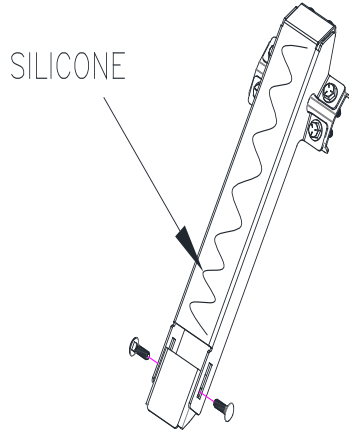

Fig. 2
4. Assemble the sliding lock brackets marked "LBSYM" to both of the outer brackets marked "DOB" & "POB" using the supplied 1/4-20 carriage bolts, washers, and locknuts (Fig. 2). Tighten the hardware enough that the lock brackets will remain in place but can still be moved by hand.
15. Apply a generous amount of silicone to the faces of the brackets that the visor will rest against (Fig. 2).